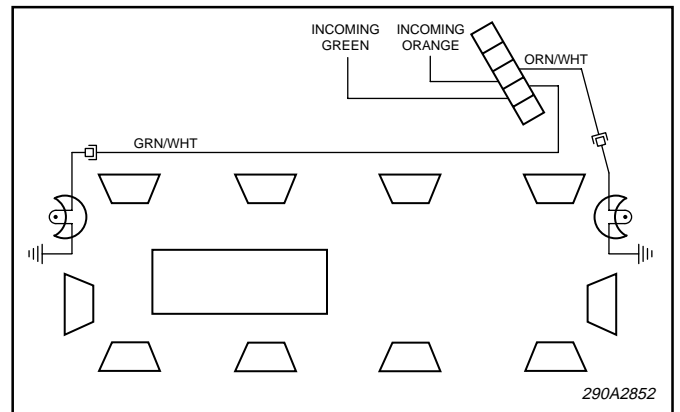

Figure 2.
3. Connect the right alley reflector assembly's wire to the supplied WHT/GRN wire. Route the WHT/GRN wire to the incoming cable terminal block. Connect the WHT/GRN wire to the incoming cable's green wire at the terminal block. See figure 2.
4. Connect the left alley reflector assembly's wire to the supplied WHT/ORN wire. Route the WHT/ORN wire to the incoming cable terminal block. Connect the WHT/ORN wire to the incoming cable's orange wire at the terminal block. See figure 2.